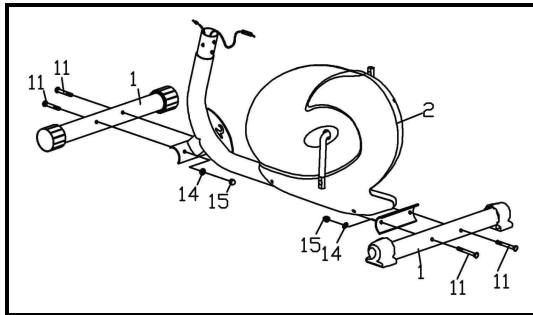

FIG.2:
Connect the Sensor A1 and A2 and Tension Control wire B1 and B2 as shown in FIG.2, fix the Upright Post (7) with the Main Frame (2) with Screw (26), Arc Washer (27). Install the fixing handlebar(10) on the Upright Post (7) with Arc Washer (27), Domed Nut(36) and Screw(37).